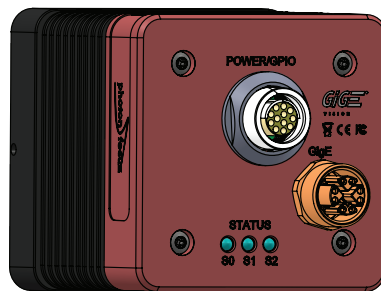

Figure 1.4: Rear view of a Photonfocus MV3 GigE camera with I/O connector and the x-coded M12 GigE connector
4. Connect the power supply to the camera (see Fig. 1.4).